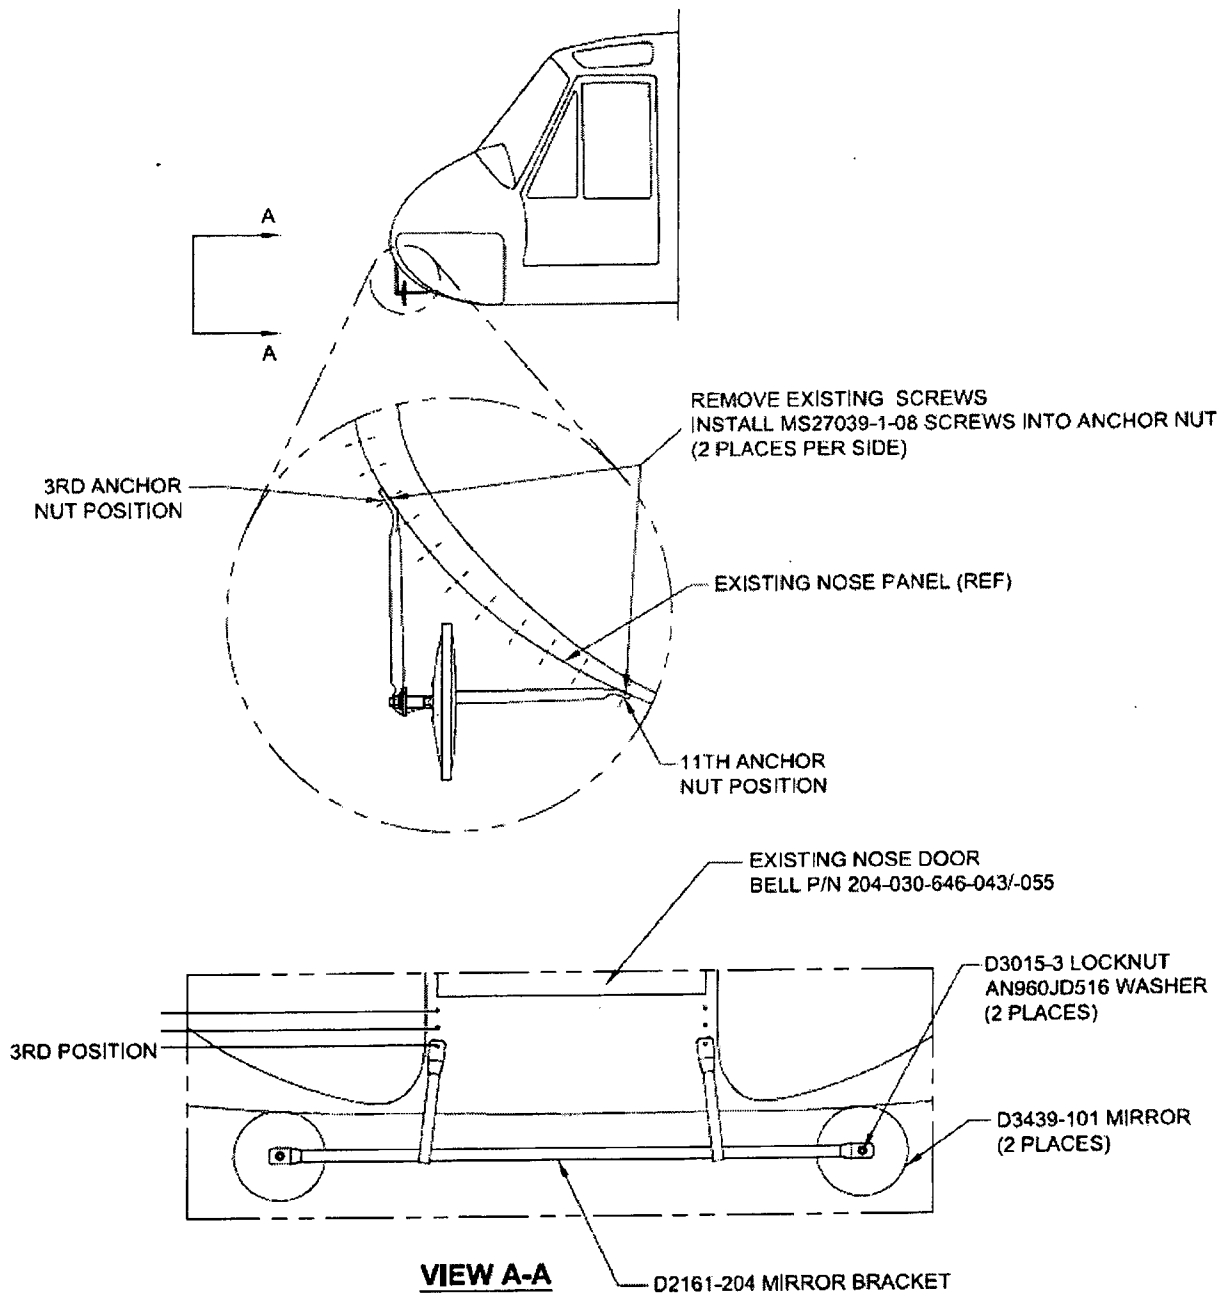

Figure 2-1: D204-562-041 DUAL MIRROR INSTALLATION
(Refer to Figure 2-1)
- 2.1.1 Locate the 3rd and 11th anchor nut on both sides of the forward nose panel as shown in Figure 2-1. Remove existing screws.
- 2.1.2 Install the D2161-204 Mirror Bracket using MS27039-1-08 screws as shown in Figure 2-1.
- 2.1.4 Install the D3439-101 Mirrors onto the D2161-204 Mirror Bracket using D3015-3 Locknuts and AN960JD516 washers as shown in Figure 2-1 (2 places). Torque the nuts per Table 1-2.